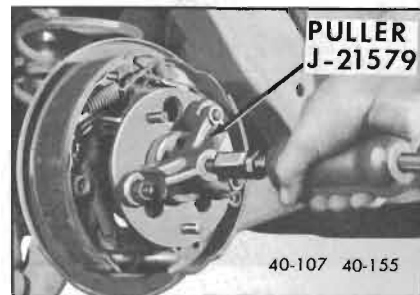

Figure 40-155—Removing Axle Shaft
4. Pull out axle shaft assembly using Puller J-21579 with a slide hammer. See Figure 40-155.